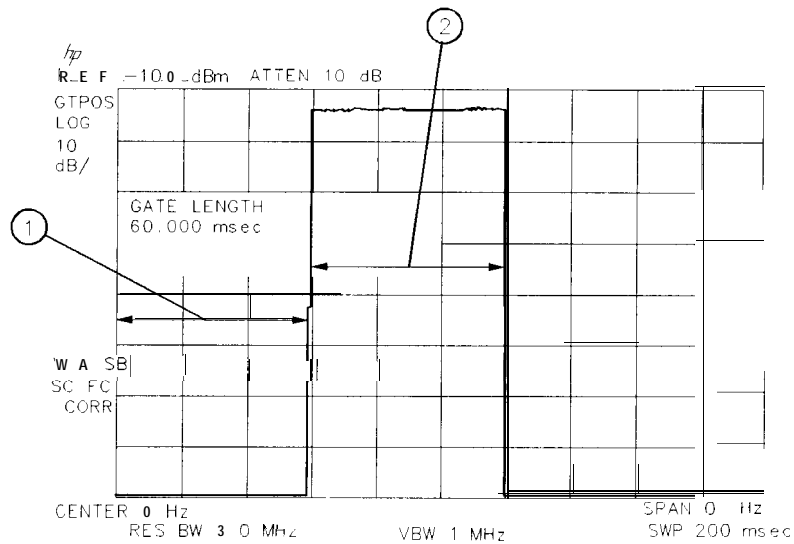

Figure 4-32. Gate On
- Press Previous Menu , GATE ON OFF (so that ON is underlined) (see Figure 4-32).
Item	Description of Items in Figure 4-32